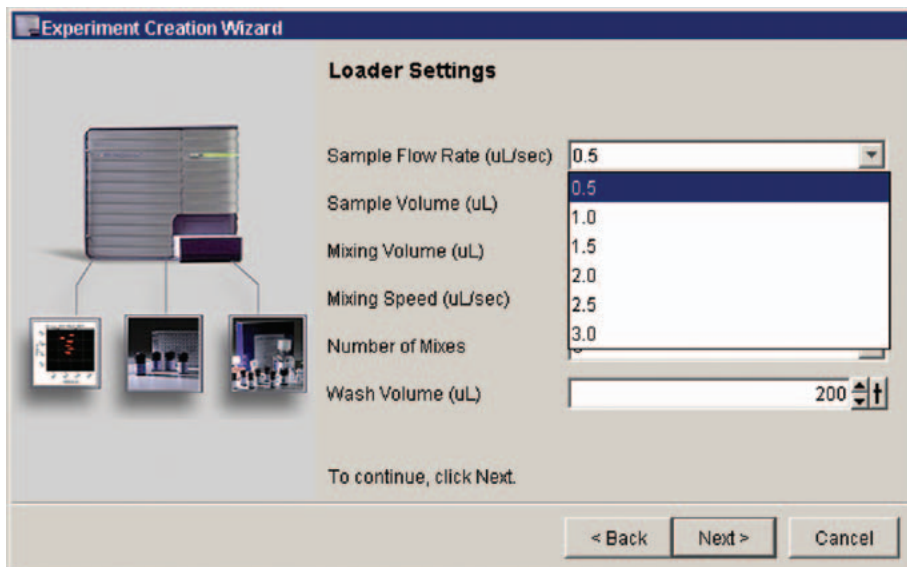

Figure 8
- The Loader Settings view appears (*Figure 8*).